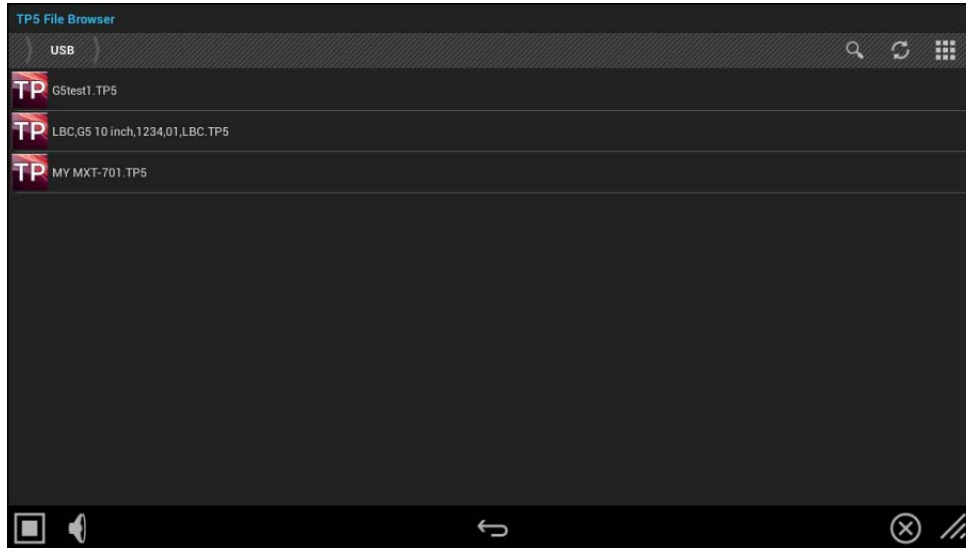

FIG. 114 TPDesign5 File Browser window
3. In the *Reset & Update* window, press **Install Pages from External Disk** (under PANEL PAGES) to open the *TP5 File Browser* window. All TP5 files found on the USB drive are listed (FIG. 114):.